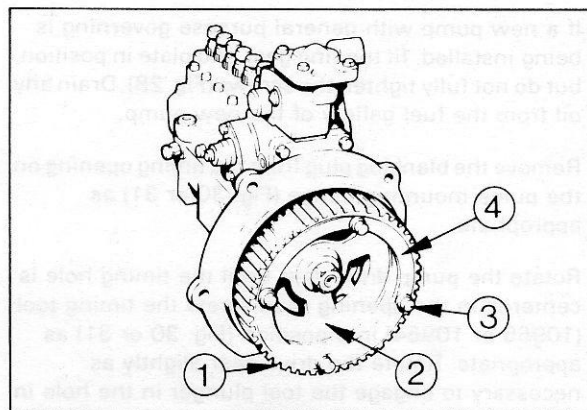

Fig. 28 - Injection Pump Drive Gear - General Purpose Governed Pumps Only
If the pump has general purpose governing and is to be renewed, remove the four outer socket headed screws from the pump driving gear and retain the gear ring, plate and screws for fitting to the new pump (Fig. 28). Examine for satisfactory condition and renew parts as necessary.
2. If a new pump with general purpose governing is being installed, fit the ring gear and plate in position, but do not fully tighten the screws (Fig. 28). Drain any oil from the fuel gallery of the new pump.